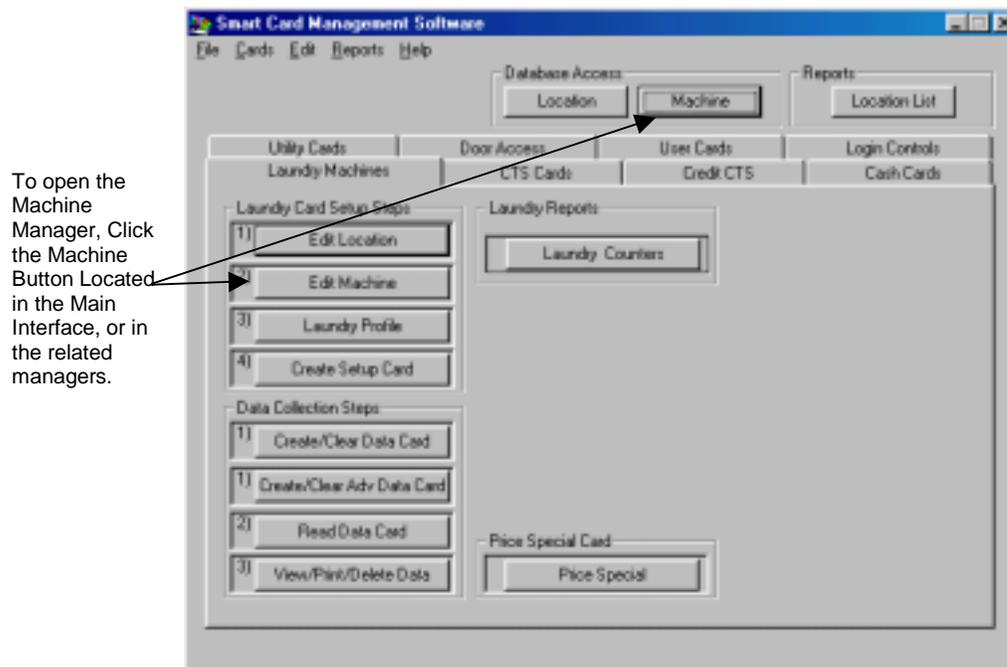

Figure 7.2 Opening the Machine Manager Record
There are two ways to open the Machine Manager Record (Figure 7.2):
1. Open the Machine Manager (Figure 7.2).
1. Open the Machine Manager record (Figure 7.2).